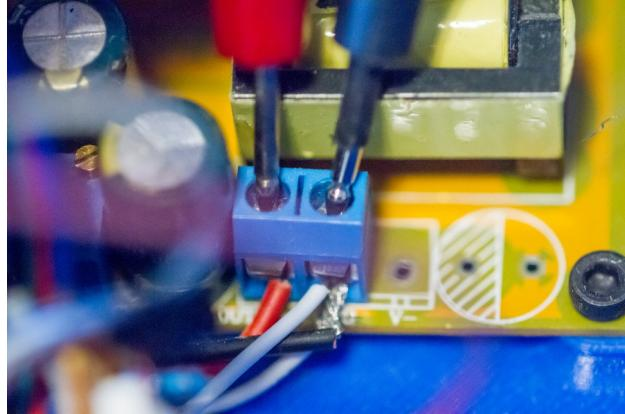

Figure 25: Output voltage from boost converter
37. The **High-Voltage Boost Regulator** will turn on. **CAREFULLY** measure the output voltage as shown in figure 25 while adjusting the potentiometer on the converter. Adjust the voltage to the desired LED drive voltage (120 V recommended, anything higher is at your own risk).